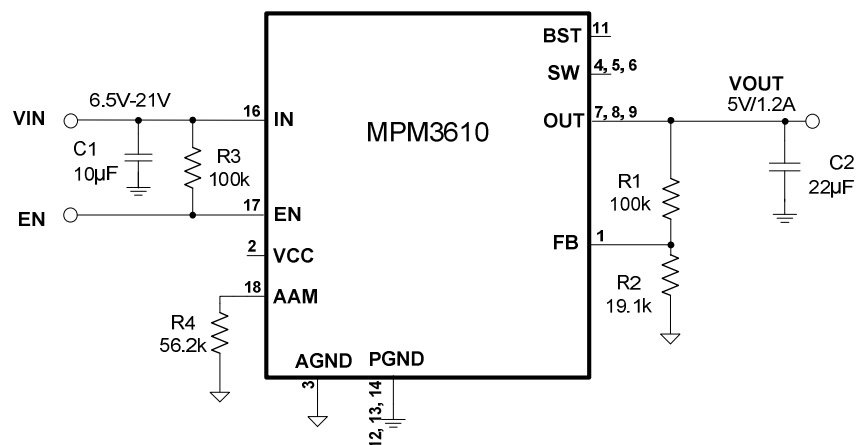

Figure 8: $V_{OUT}=5V$, $I_{OUT}=1.2A$
- 10) The recommended layout is based on the Figure 8 Typical Application circuit on page 16.
The detailed application schematic is shown in Figure 8 through 13. The typical performance and circuit waveforms have been shown in the Typical Performance Characteristics section. For more device applications, please refer to the related Evaluation Board Datasheets.